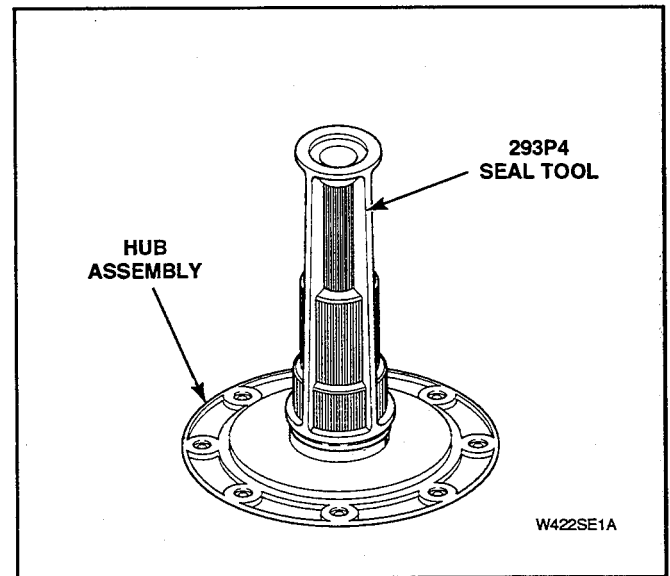

Figure 5-14
- o. Place new drive bell seal onto hub and carefully push into position using large end of No. 293P4 Seal Tool. See Figure 5-14.